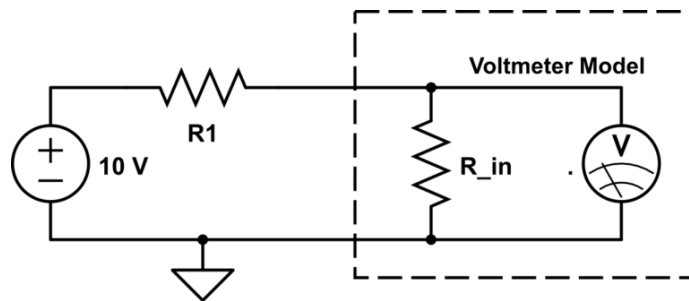

Figure 3: Voltmeter in series with a resistor
A second method to determine the internal resistance of the meter is to connect it in series with various resistance values as shown in figure 3. The multimeter will show the voltage drop over its own internal resistance.
- Build the circuit shown in figure 3 using your resistor decade box as  $R_1$ . Adjust the value of  $R_1$  until the measured voltage value tells you that  $R_1 = R_{in}$ .